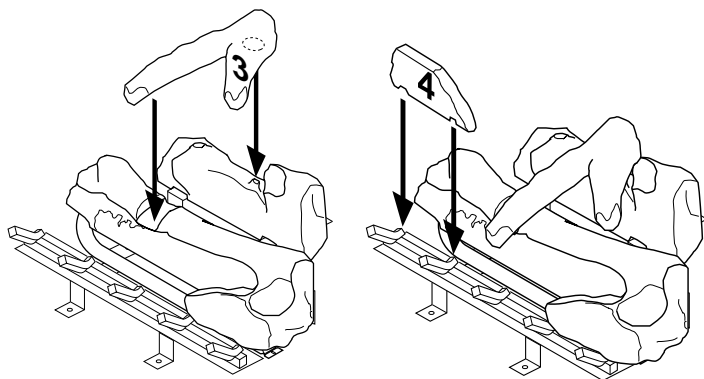

Figure 45 - Installing Log No. 3    Figure 46 - Installing Log No. 4
3. Place log #3 (crossover log) onto the rear and front logs. Make sure it is seated properly into the notch on the front log and over the raised triangular portion of the rear log as shown in Figure 45, page 19.